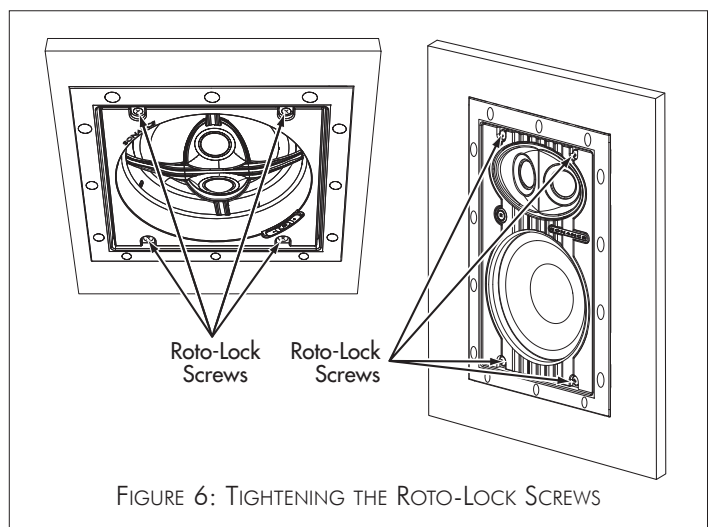

FIGURE 6: TIGHTENING THE ROTO-LOCK SCREWS
6. Tighten the four screws on the front of the speaker baffle (Figure 6). The Roto-Lock clamps will automatically rotate into position and begin clamping the speaker. When you notice resistance on the screws the speaker has been clamped successfully.